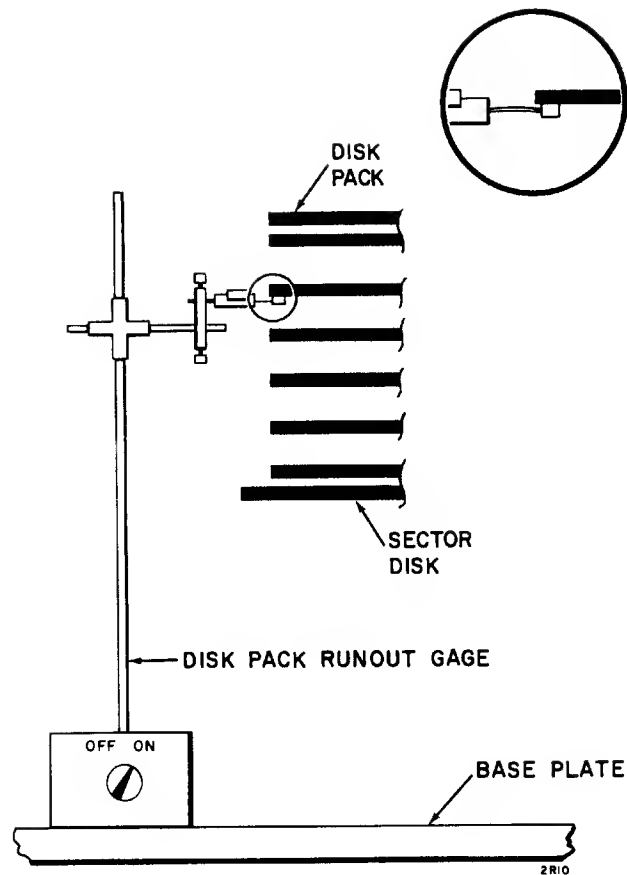

Figure 7-5. Disk Pack Runout Gage
4. Place the disk pack runout gage (84357600) on the disk drive base plate (Figure 7-5).